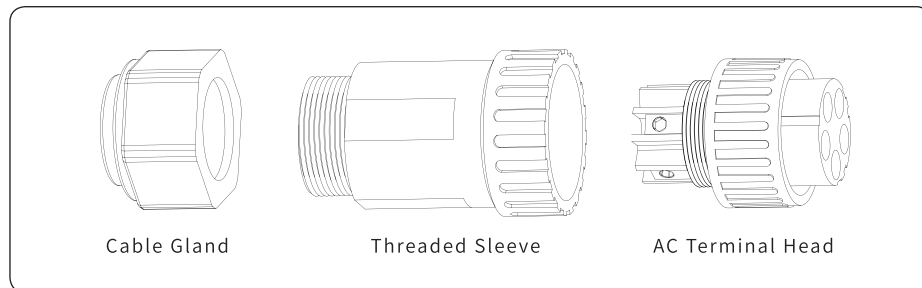

Figure 4-14
1) Take the AC connector out of the accessory bag and disassemble it, as shown in Figure 4-14: